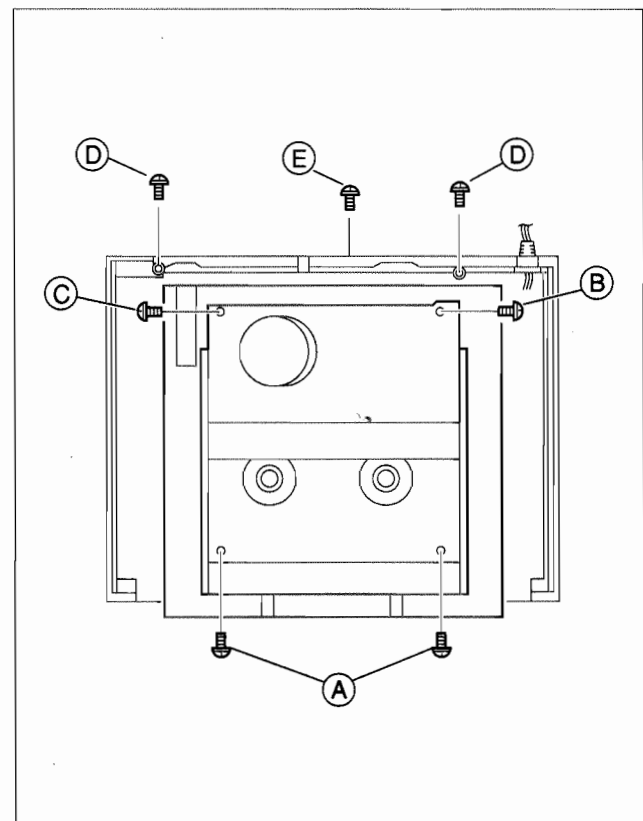

Fig. 1-4-1
- (1) Remove the Top cover, Bracket, Front panel assembly and JACK board assembly. (Refer to page 1-2 of 1.3 DIS-ASSEMBLY/ASSEMBLY METHOD.)
- (2) Lower the cassette holder, and make the preparations required in order to remove the screws from the Mechanism assembly. (Refer to the "Procedures for Lowering the Cassette holder assembly" on pages 1-3 of 1.3 DIS-ASSEMBLY/ASSEMBLY METHOD.)
- (3) Take out 2 screws (A), 1 screw (B) and 1 screw (C) as shown in Fig. 1-4-1.
- (4) Remove the flat wires from CN3011 and CN7504 on the Main board assembly.
- (5) Take out 2 screws (D) and 1 screw (E) as shown in Fig. 1-4-1.